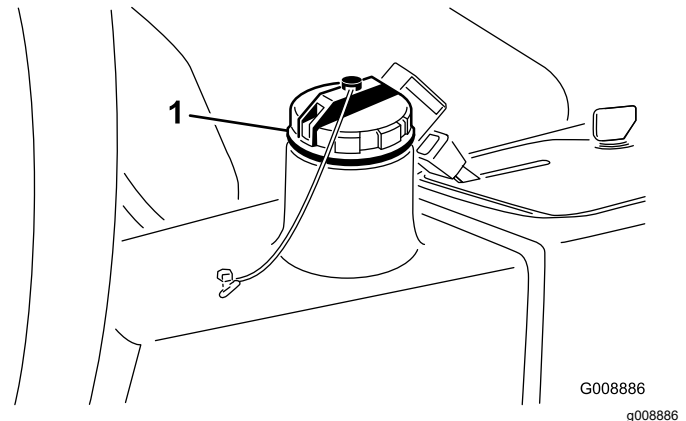

**Figure 65**
2. Disconnect the hydraulic line (Figure 65) or remove the hydraulic filter (Figure 64) and let the hydraulic fluid flow into a drain pan. Install the hydraulic line when hydraulic fluid stops draining.